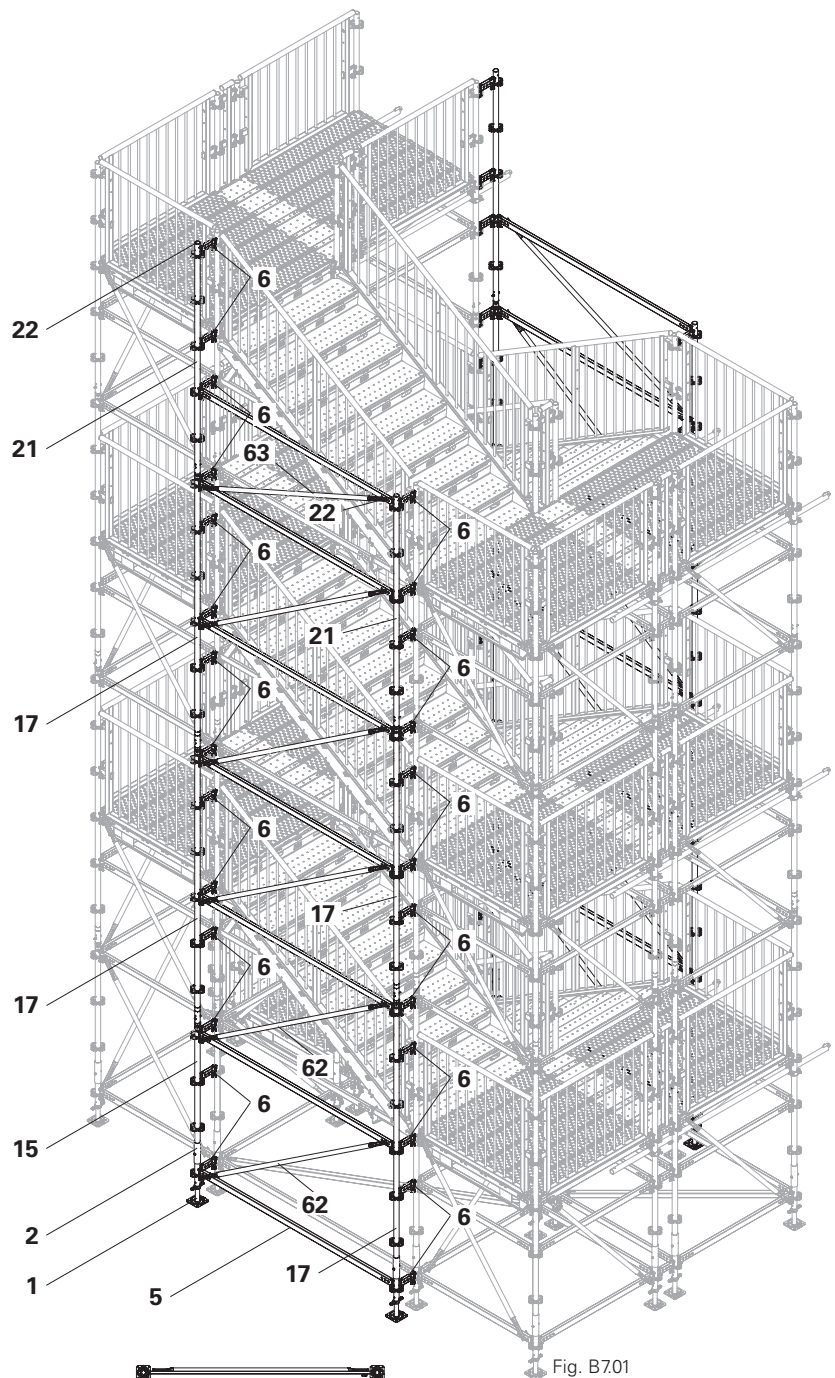

Fig. B7.01
3. Connect standards to the stair tower with Horizontal Ledger UH-2 25 (6) at the positions shown. Secure the wedges.
5. Connect the additional standards with Horizontal Ledger UH-2 250 (5) at the positions shown. Secure the wedges.
- Fit the Ledger Brace UBL-2 250/100 (63).
- Fit the plastic cap (22) onto the top standard. (Fig. B7.01)